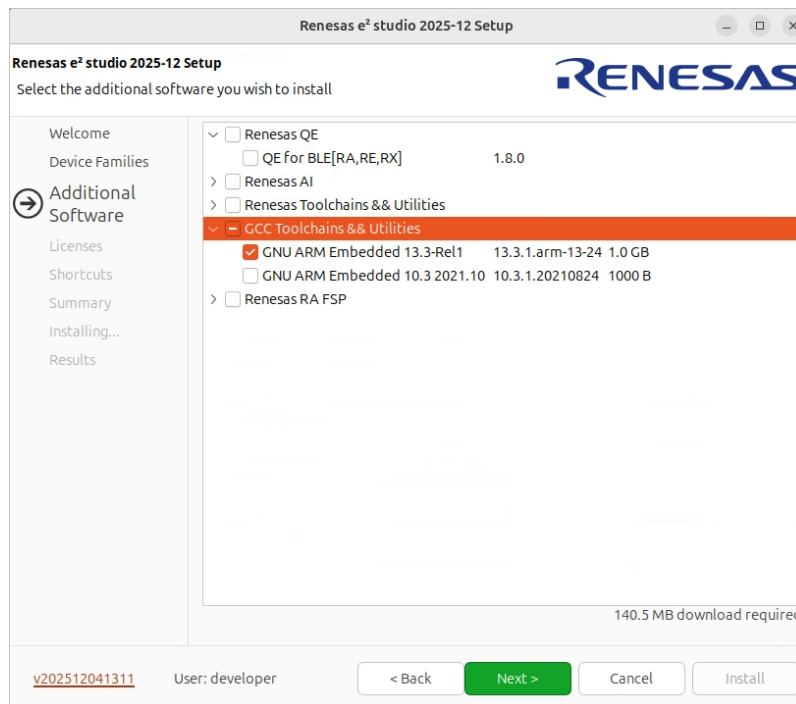

Figure 68. Device families
- On the **Additional Software** step, expand **GCC Toolchains and Utilities**, select the **GNU ARM Embedded 13.3** checkbox, click **Next > Install**, see Figure 68.